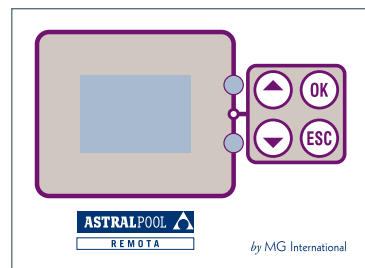

fig.5 - Remota™ navigation keyboard Confort™ version
- press the Remota™ "OK" button (fig.5) to access the adjustment menu
- using the arrows on the Remota™ keyboard (fig.5), position the cursor on "Adjust pH 7" and confirm by pressing "OK"
- press the Remota™ “OK” button (fig.5), to access the adjustment menu
- using the arrows on the Remota™ keyboard (fig.5), position the cursor on “Réglage T°” (“T° adjustment”) and press “OK”
- using the “up” ▲ and “down” ▼ arrows (fig.5), adjust the temperature displayed on the screen so that it matches the one given by the calibration thermometer